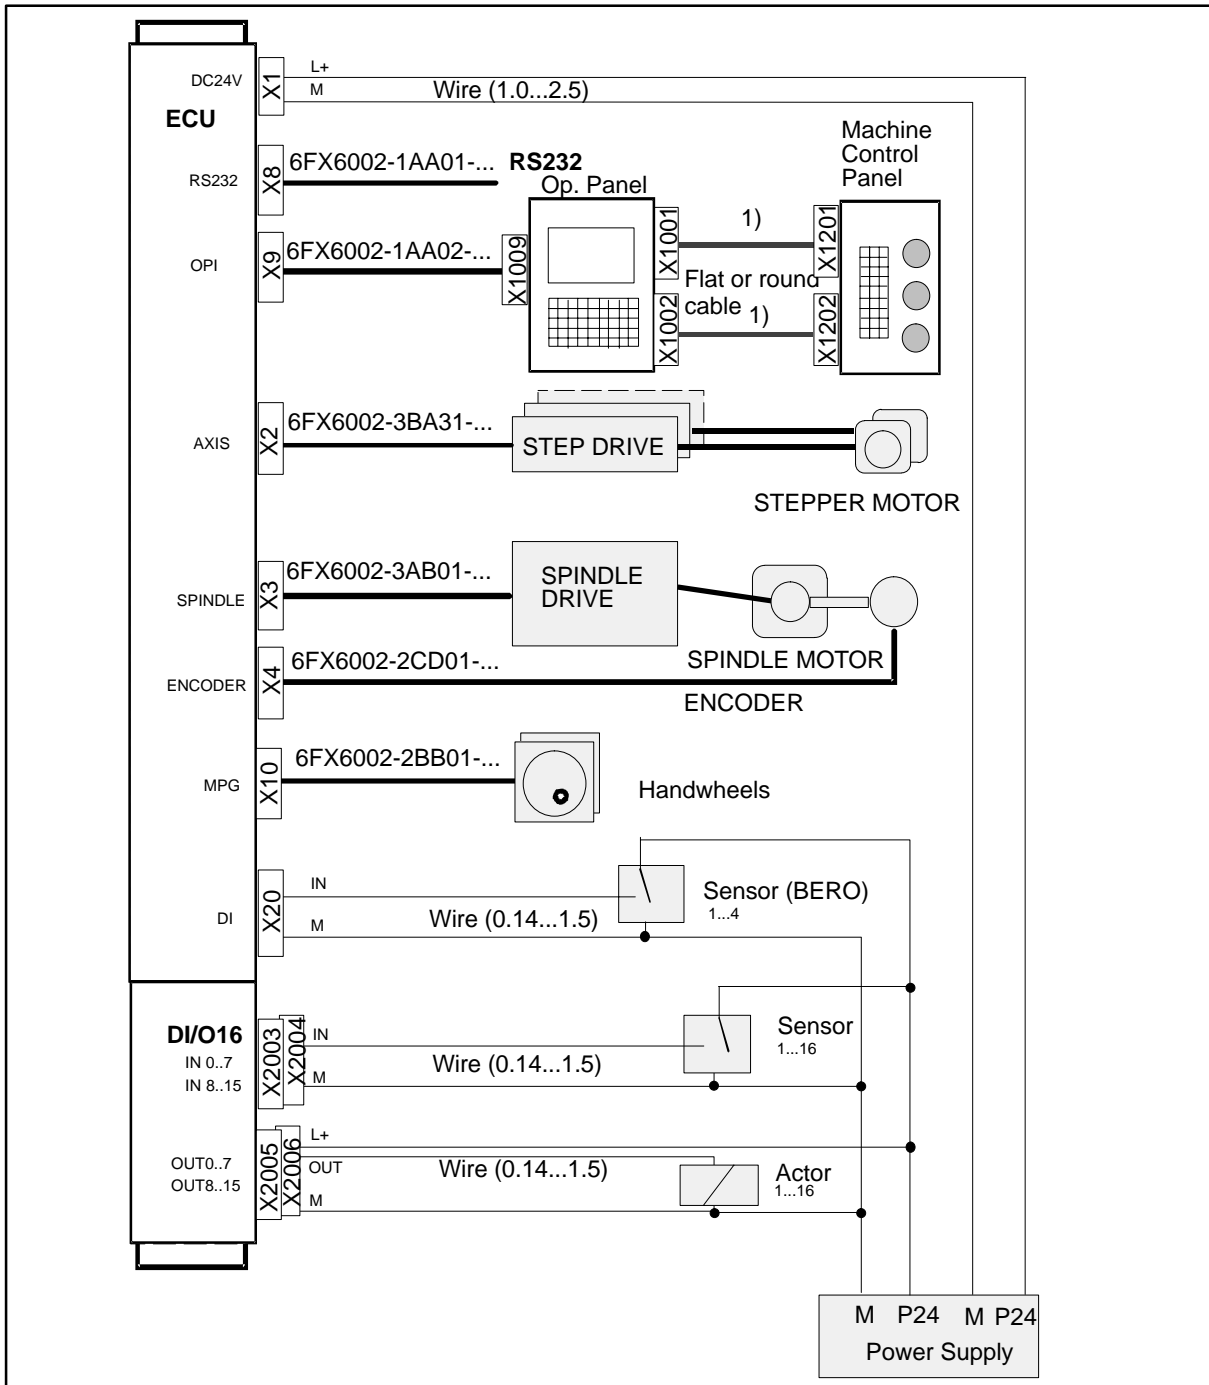

Fig. 2-4 SINUMERIK 802S Connection Diagram
1. Connect the cables to the components as shown in Fig. 2-4.